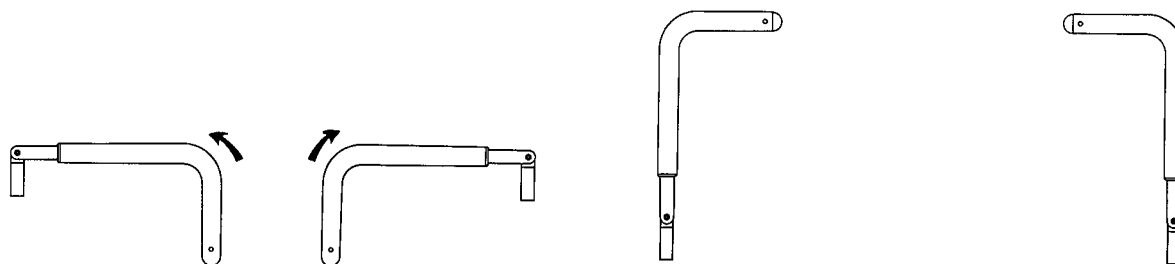

Figure 3: Positioning the head end push handles
1. Pivot the handles up from the end of the product (Figure 3 on page 14).